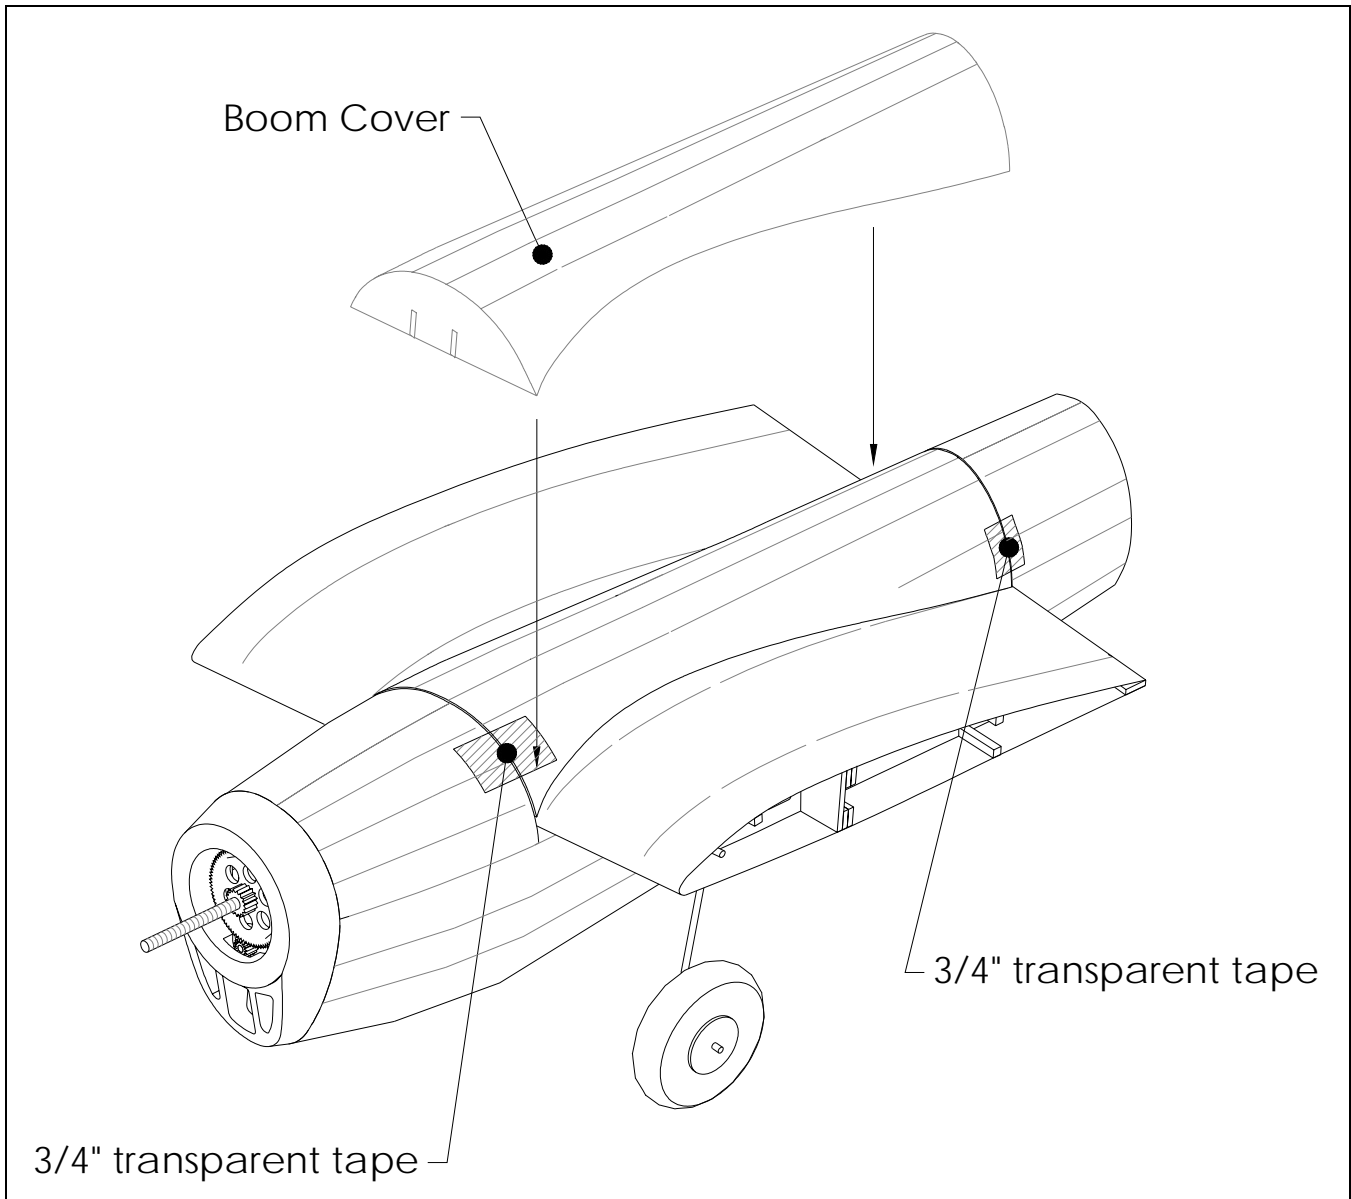

Figure 35
- ❑ Tape the boom covers to their Booms as illustrated in Figure 35.